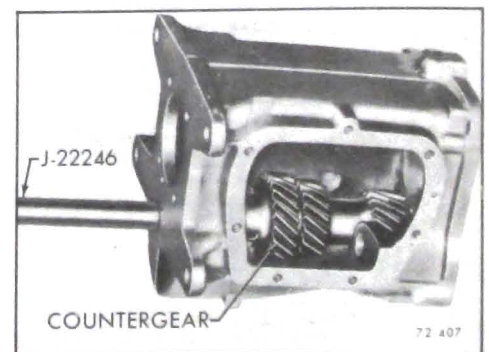

Figure 72-407 - Removing Countergear With J-22246
15. From front of case, tap out countershaft, using countershaft alignment tool J-22246 as shown in Figure 72-407. Remove the counter-gear and both tanged washers.